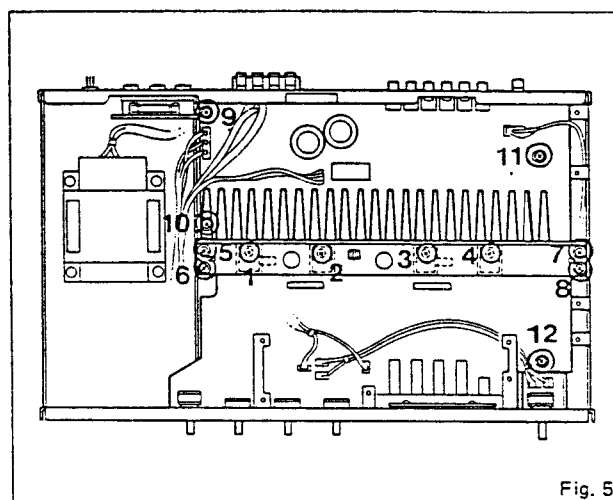

Fig. 5
- b. Remove screws (① through ④ in fig. 5) by which power transistors are screwed down.
- c. Remove screws ⑤ through ⑧ in fig. 5 and remove the heat sink.
- f. Remove screws ⑨ through ⑫ in fig. 5 and then remove the main circuit board.